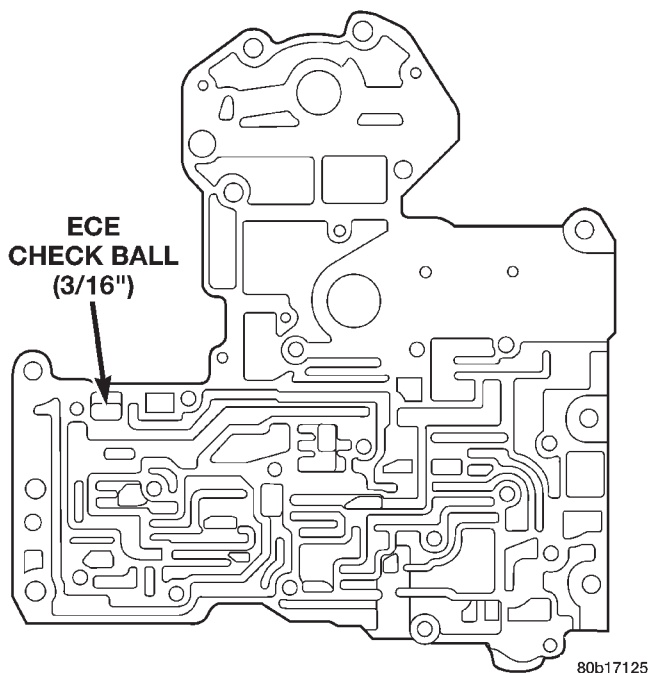

Fig. 58 ECE Check Ball
(31) Remove the ECE check ball from the transfer plate (Fig. 58). The ECE check ball is approximately 4.8 mm (3/16 in.) in diameter.
(3) Install the ECE check ball into the transfer plate (Fig. 58). The ECE check ball is approximately 4.8 mm (3/16 in.) in diameter.